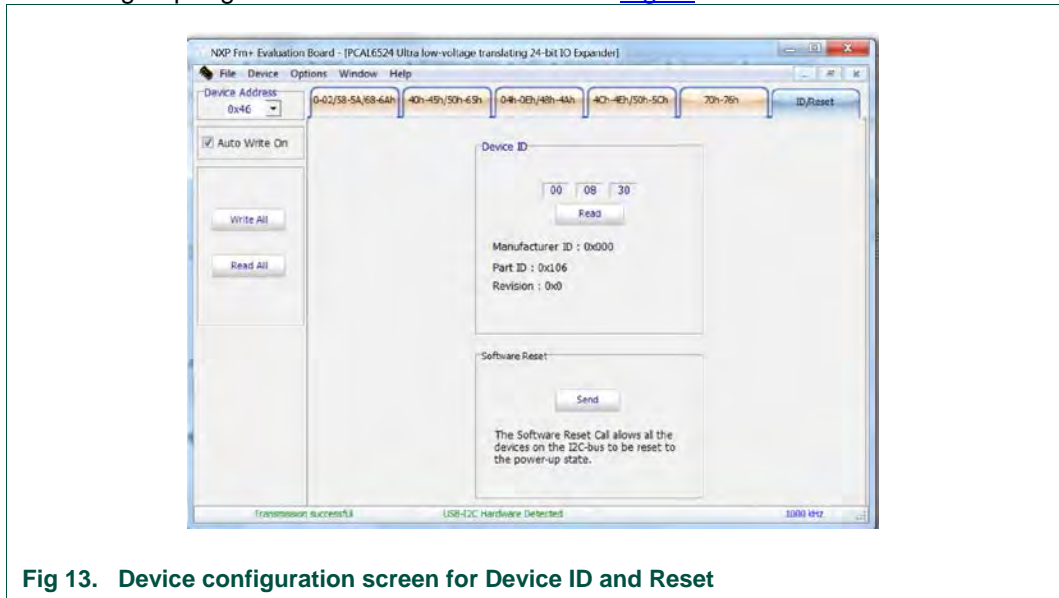

Fig 13. Device configuration screen for Device ID and Reset
7. Sixth group registers read or write are shown in Fig 13.